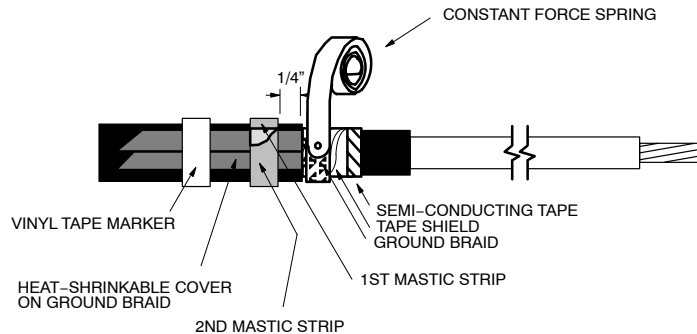

FIGURE 4A
4. Wrap the ground braid around the metallic shield and secure in place with the constant force spring. Tighten the spring after wrapping the final turn. Position the ground braid tails over the cable jacket. Note: The tails of the ground braid do not have to be on top of each other. See Figure 4A.
5. Select the second mastic strip from the kit and remove the white release liners. Apply a single wrap of the second mastic strip over the previously applied mastic. If ground braids overlap on cable jacket be sure to apply mastic between the braids. Secure ground braids to cable jacket 4–1/2" from cable semi-con edge using vinyl tape. Apply tape directly over previously applied marker tape. See Figure 4A.